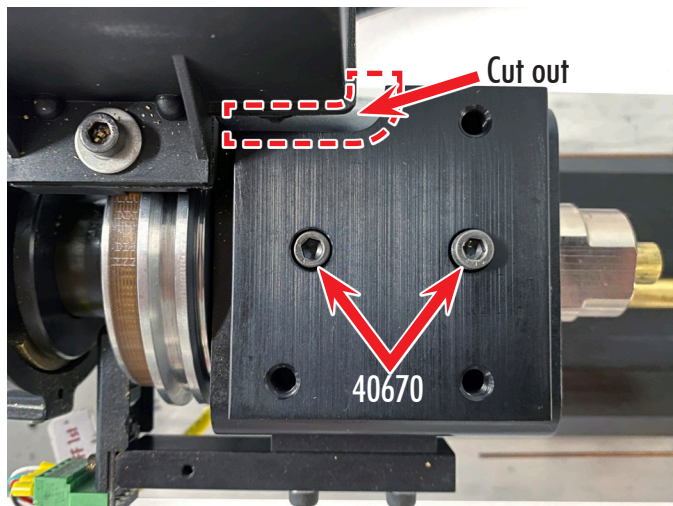

FIGURE 10
B. Use the (2) 10-32 x 1/2" SHCS (P/N 40670) to mount P/N 88056 to the top of the headstock as shown below (Note that the cut out must be toward the speed control unit. See Figure 10).